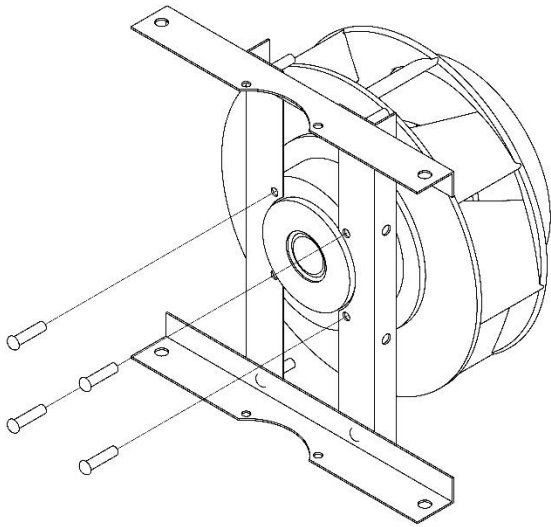

Figure 22
- 10.) Remove (4) screws holding fan motor to fan motor bracket. See Figure 22.
- 13.) Attach fan motor to fan bracket with (4) screws. See Figures 22 and 23.